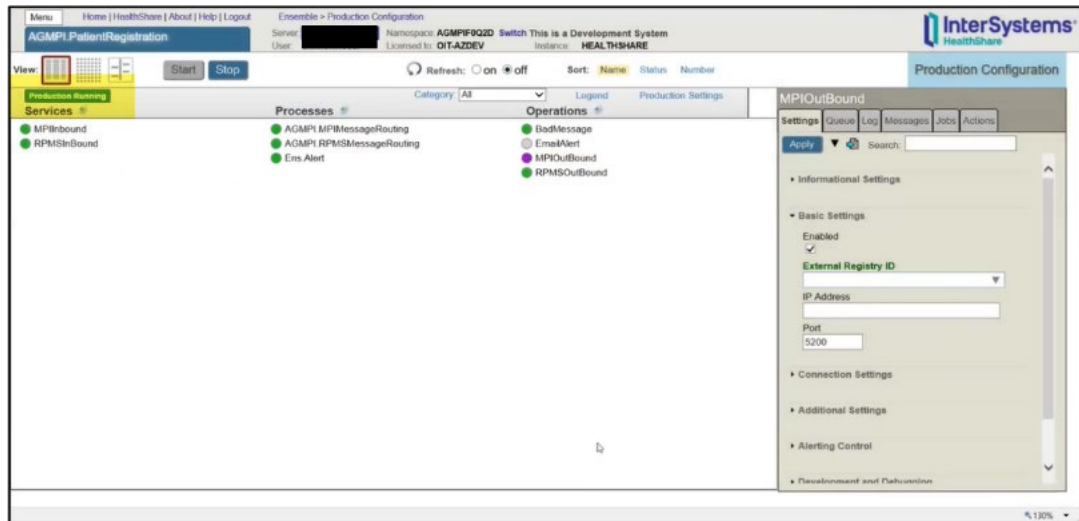

Figure 2-3: Production Page
2. To start management of a production, click on **Configure** then click on **Production**. The **Production** page opens (Figure 2-3).